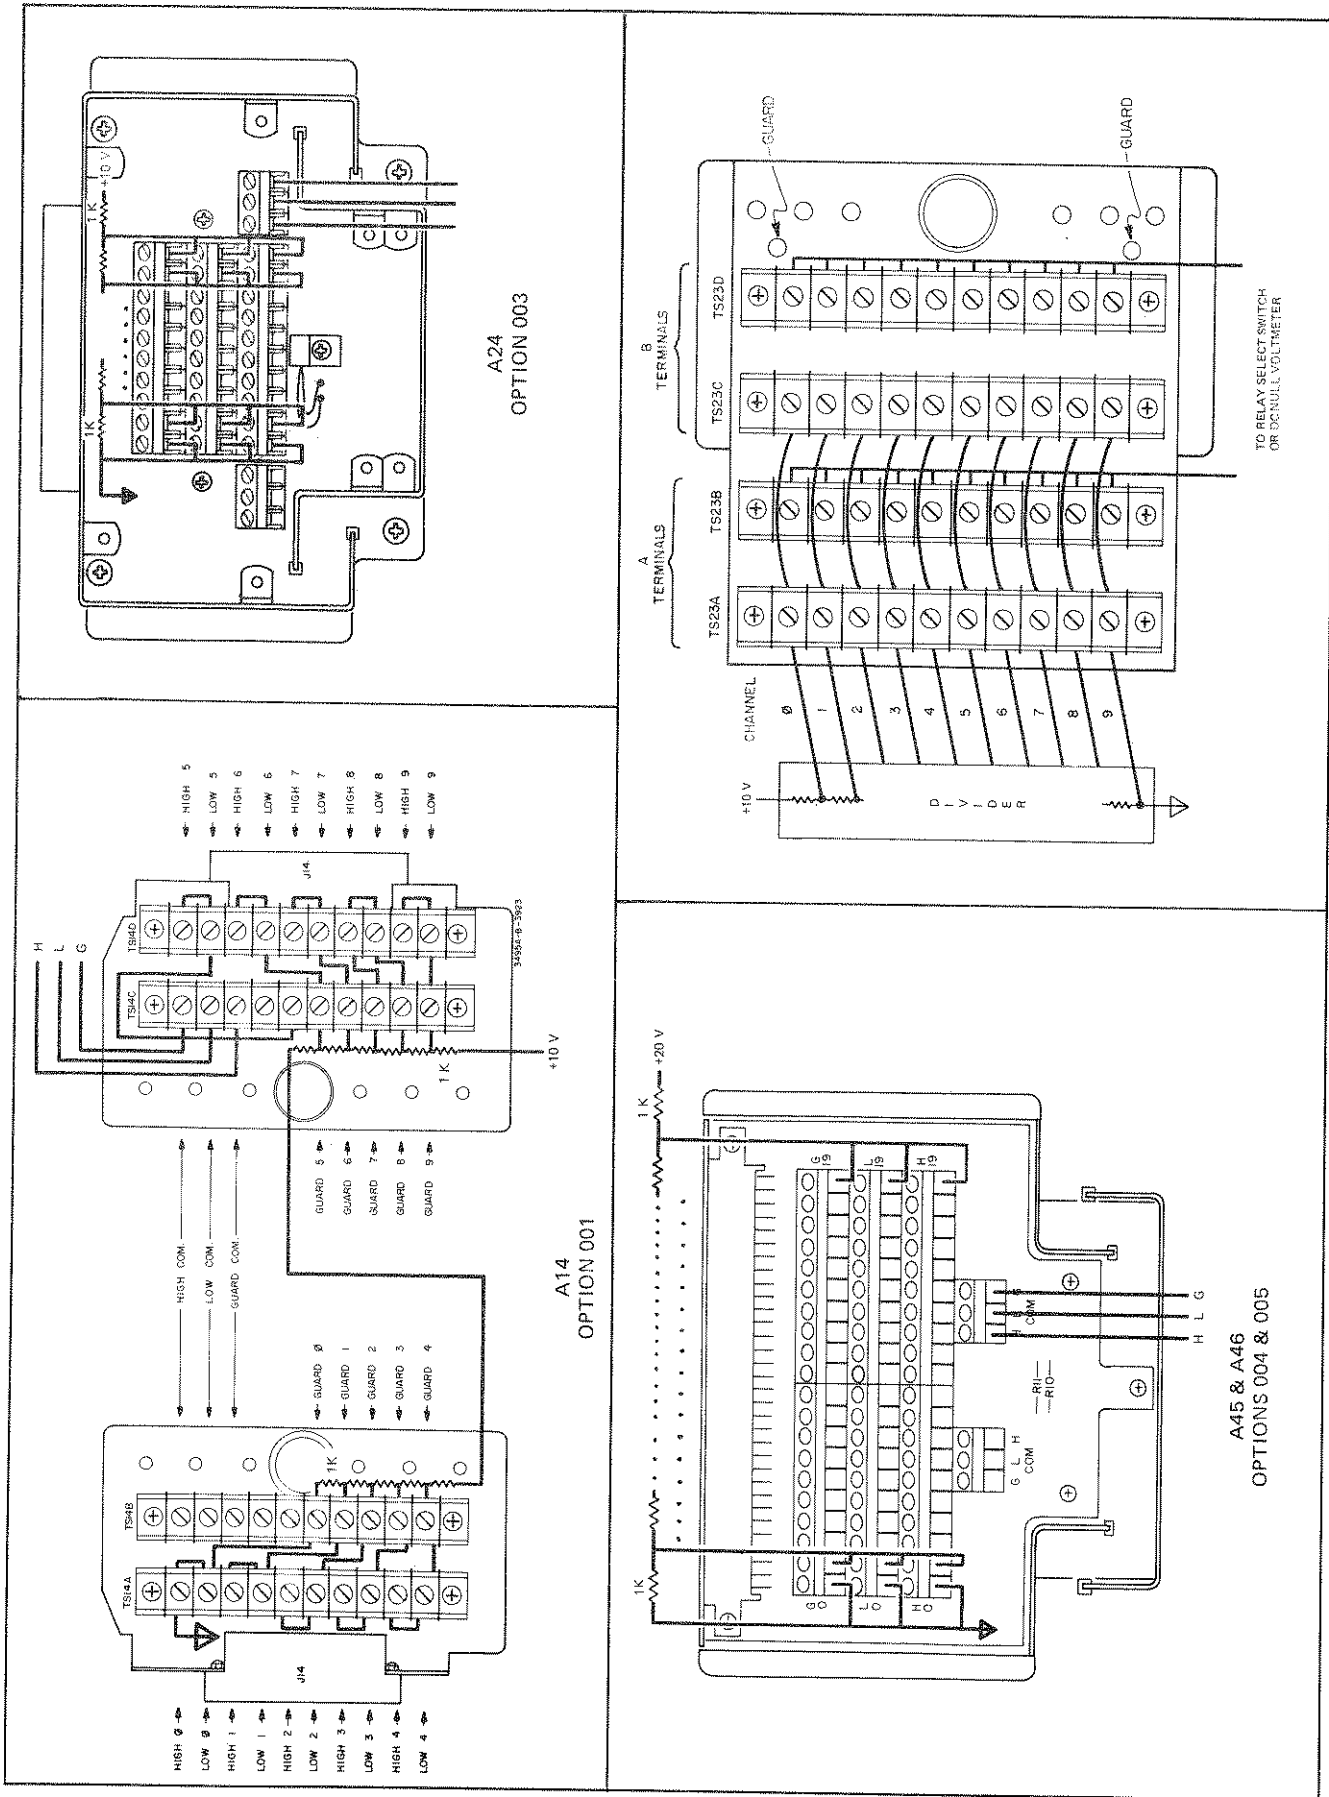
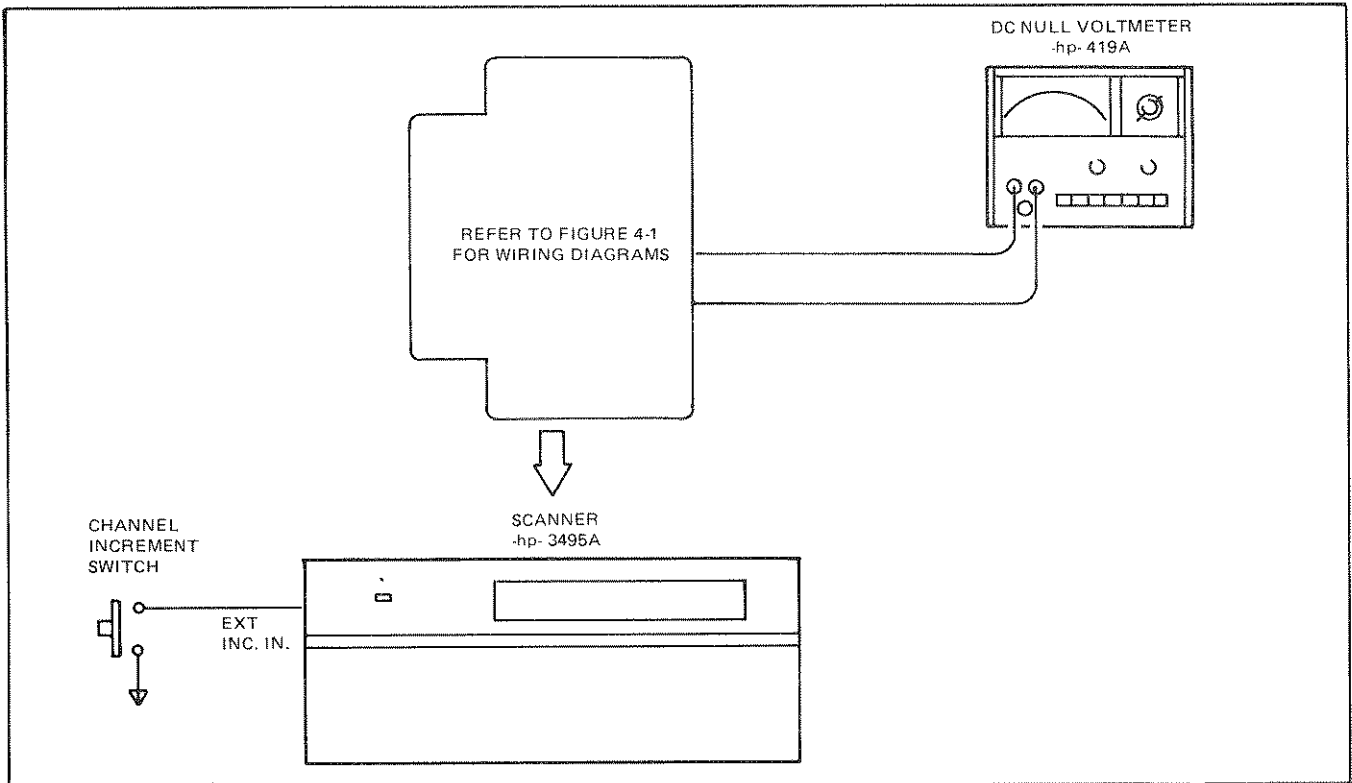

Figure 4-1. Switching Time And Thermal Offset Voltage Test Wiring Diagrams.
Figure 4-4. Thermal Offset Voltage Setup.
- b. Wire the divider network as shown in Figure 4-1.
- a. Connect the test setup as shown in Figure 4-4. The connector wiring in Figure 4-1 can be used for this test also.
- g. Repeat Steps b through f for all channels to be tested. The actuator channel measurements require rewiring the connector for each channel measured, unless common connections are wired as in Figure 4-1.